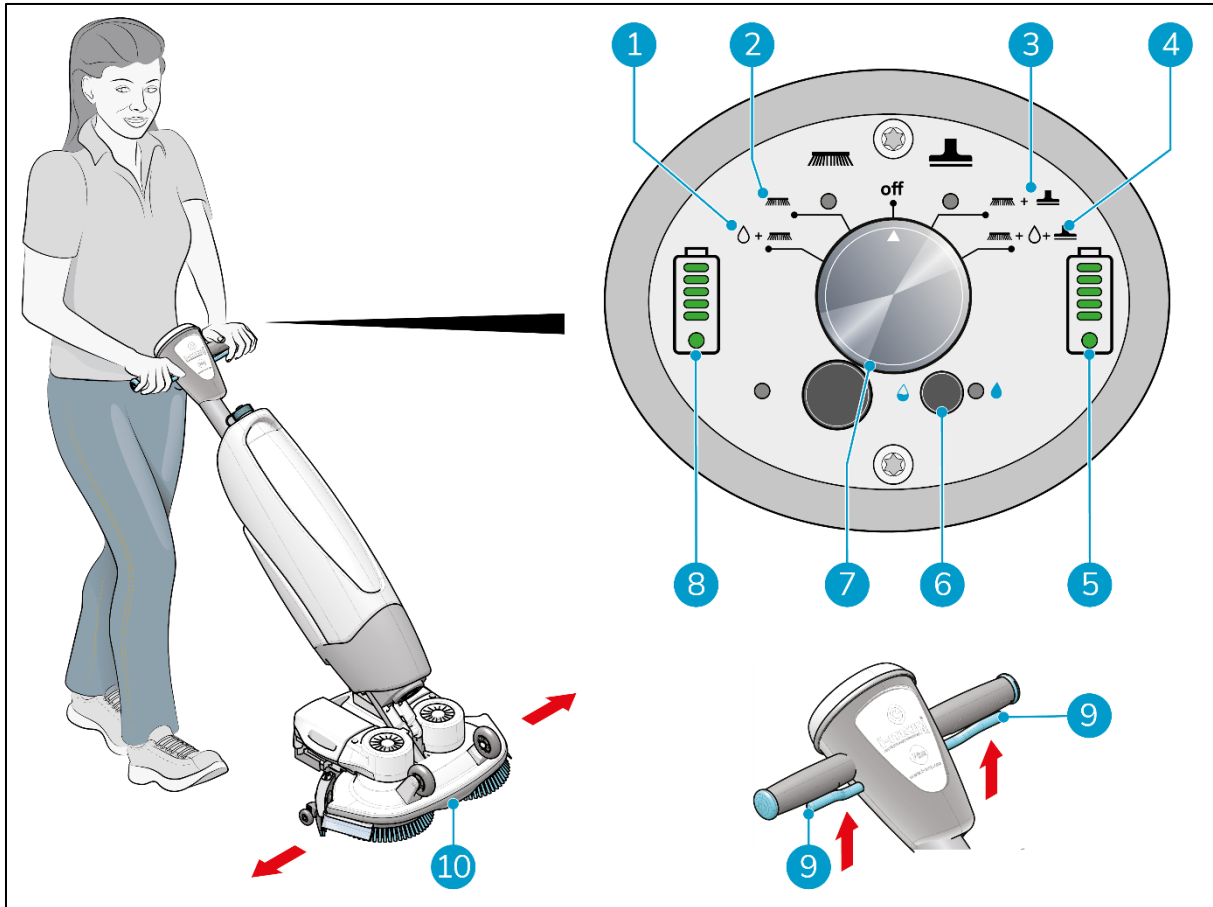

Figure 16
4. Stand behind the i-mop® XL basic. Choose your cleaning mode via the main switch (Figure 16, pos 7). This will also turn on the i-mop XL basic.
- MODE 1: Brush + water/cleaning solution (Figure 16, pos 1).
- MODE 2: Brush only (Figure 16, pos 2).
- MODE 3: Brush + vacuum (Figure 16, pos 3).
- MODE 4: Brush + water/cleaning solution + vacuum (Figure 16, pos 4).
6. Squeeze the trigger on the handle (Figure 16, pos 9).
9. Steer by gently turning the handle left or right to move the scrub deck (Figure 16, pos 10).
10. Releasing the trigger (Figure 16, pos 9) will immediately stop the i-mop® XL basic. The vacuum motor will stop after 3 seconds.